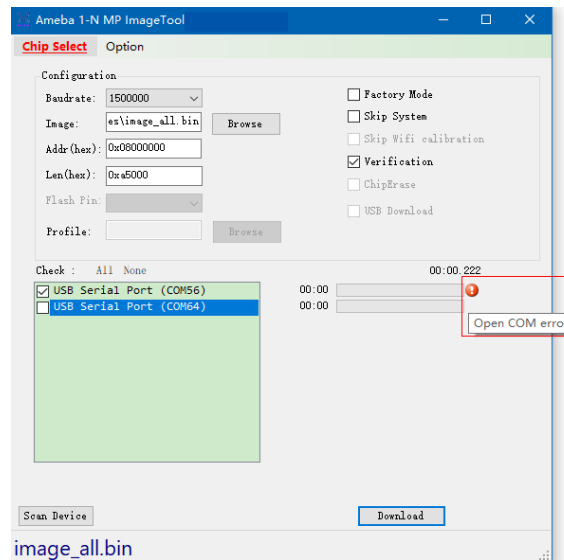

Figure 5-1 Download is fail
- Hover the mouse cursor over the sign, the error message shows up, as Figure 5-1.